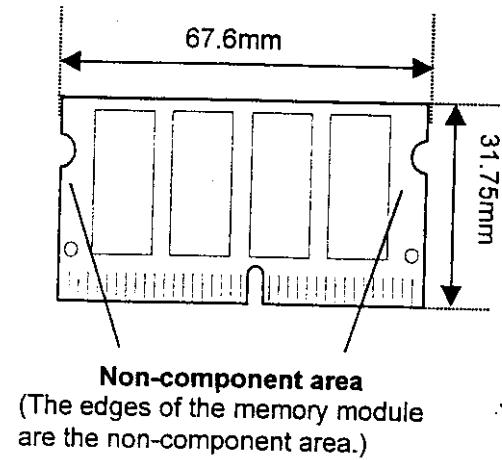
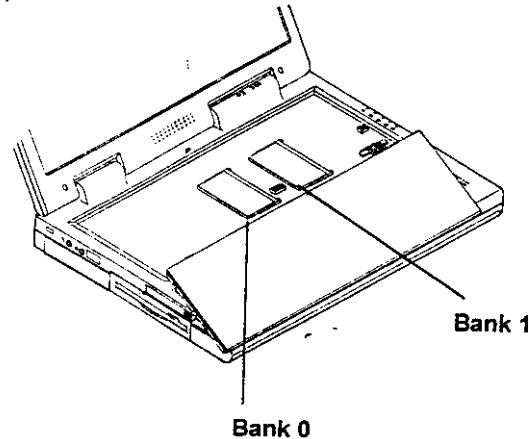

Figure 2-6
Figure 2-7
3. Carefully lift the keyboard assembly out to expose the mainboard. Locate the memory sockets (Figure 2-6 & Figure 2-7).
3. Carefully lift the keyboard assembly out to expose the mainboard. Locate the memory sockets (Figure 2-7).